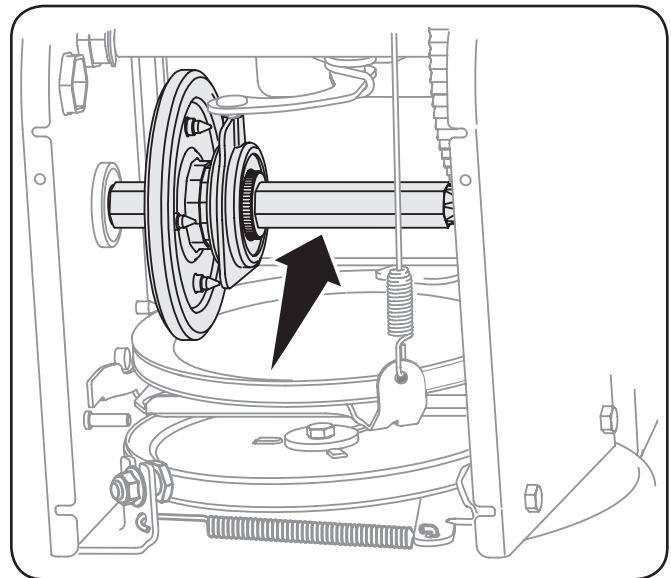

Figure 6-6
4. Apply a light coating of Bostik Regular Grade Never-Seez® to the hex shaft. See Figure 6-6.